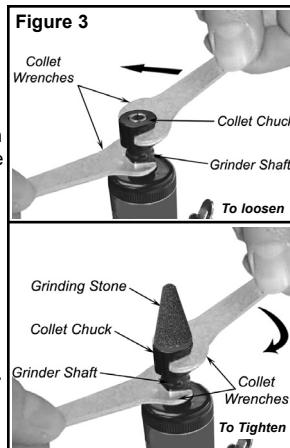

Figure 3
- a. Loosen the collet chuck with the collet wrenches (included with your tool) by placing one collet wrench on the flats of the grinder shaft to hold it from turning. Place the other collet wrench on the flats of the collet chuck and turn counter-clockwise to loosen (see figure 3).
- a. Loosen the collet chuck with the collet wrenches (included with your tool) by placing one collet wrench on the flats of the grinder shaft to hold it from turning. Place the other collet wrench on the flats of the collet chuck and turn counter-clockwise to loosen (see figure 3). Remove the collet chuck from the tool.